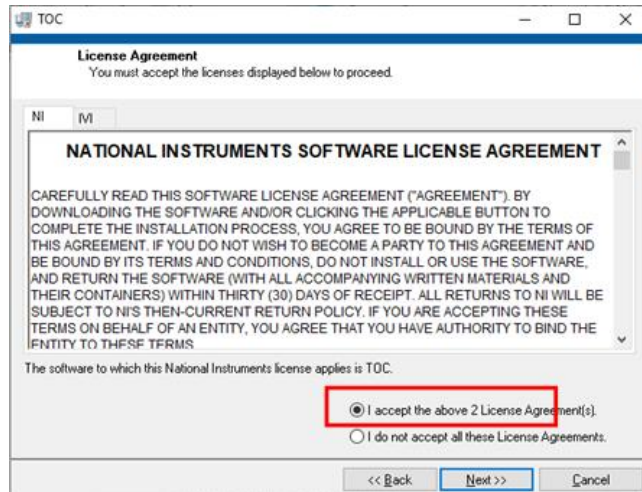

Fig.3.23
3)Select 'I accept the above 2 License Agreements', and click 'Next' (Fig.3.23).